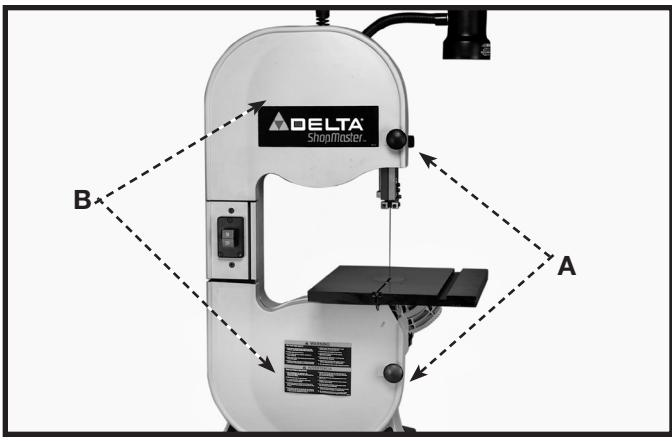

Fig. 23
When making adjustments such as changing the blade, tracking the blade, blade guide adjustments, etc., the doors (B) Fig. 23 can be opened as follows:
1. Pull out the two locking latches (A) Fig. 23, and swing doors (B) open.
3. To close and fasten doors (B) Fig. 23, press on the doors directly over the latches (A) until the latches snap into the locking position.